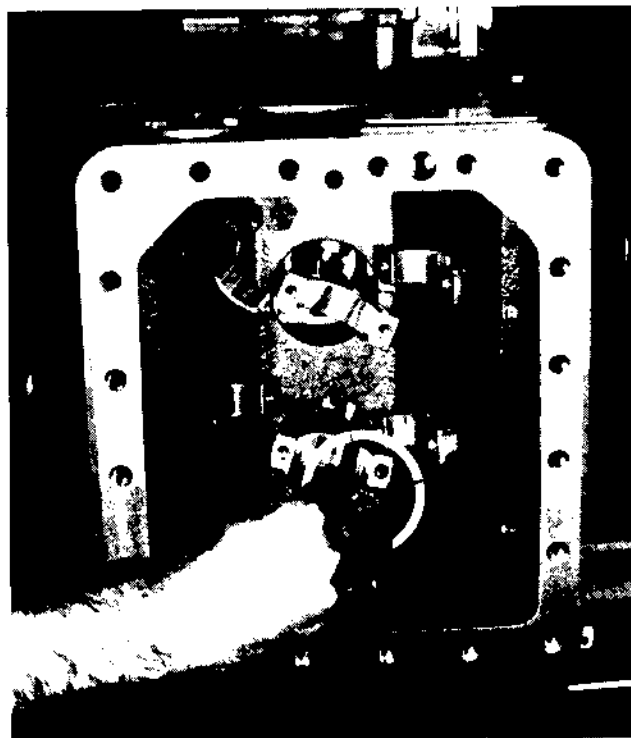

Figure 72
4. Remove the thrust bearing on the motor end bearing (Figure 72).
1. Oil the motor end thrust bearing and place it on the motor end bearing (Figure 72).